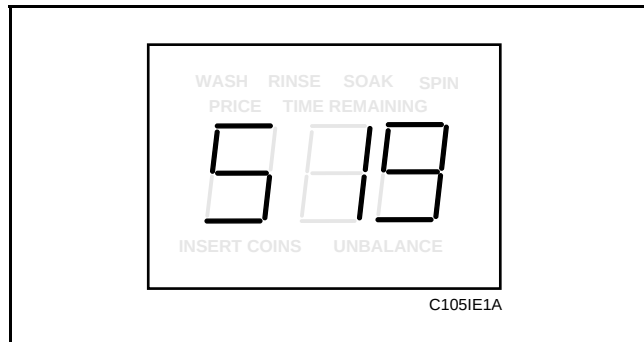

Figure 7
2. While pressing and holding the PERM PRESS keypad with one hand, press the COLD keypad with the other hand. Programmable option number one, “Slg”, will appear in the VFD. See **Figure 7**.